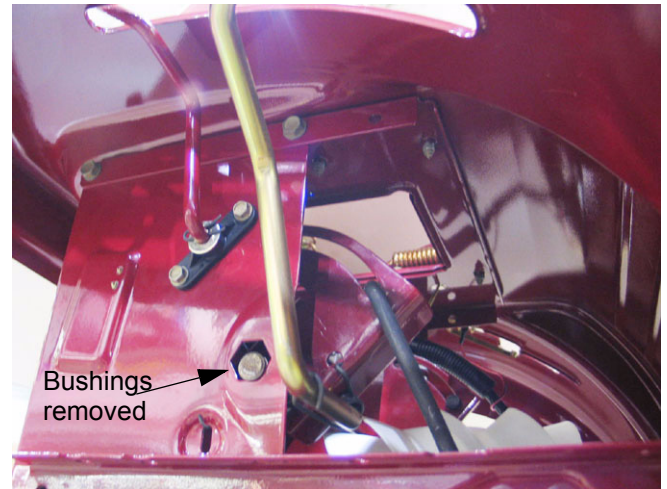

Figure 5.9
- 5.9. Remove the bushings that support the lift shaft assembly. See Figure 5.9.